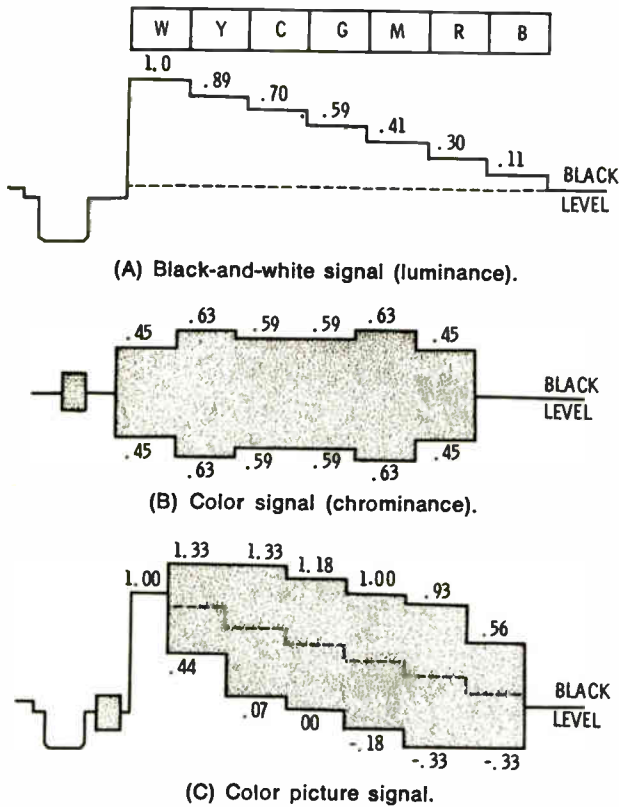

Fig. 5-2. Formation of the color signal.
The difference between a black-and-white (Y) signal and a complete color signal is depicted in Fig. 5-2. The chroma signal is added to the Y signal to form the complete color signal. This completed color signal is present at the video detector. Both the Y signal and